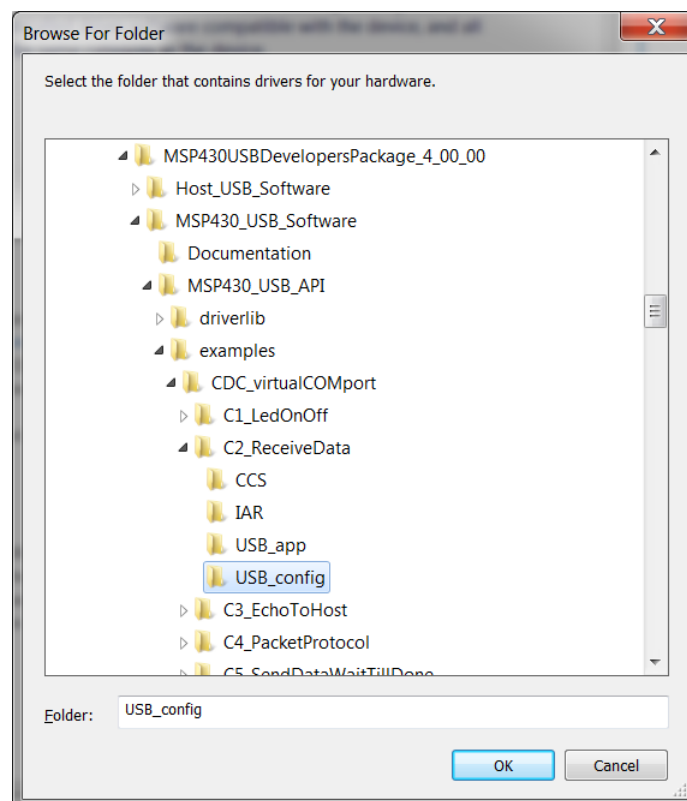

Figure 27. Project Content With USB_Config
4. Navigate to the `USB_config` directory for the CDC example in question (see Figure 27). Be sure to select the right folder for the example. Then, click the *OK* button.